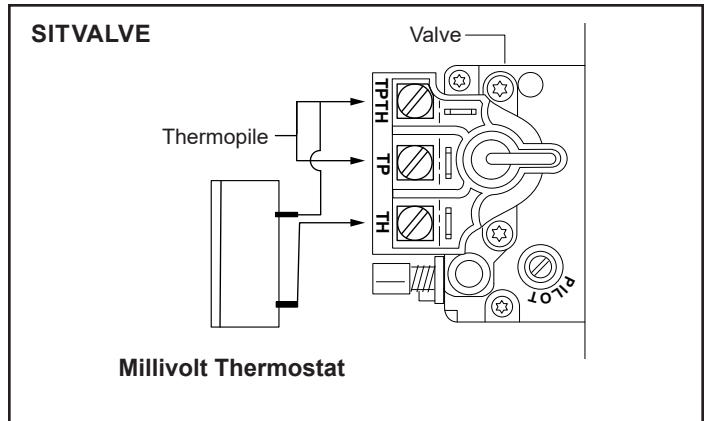

Figure 3.30 - Install wiring to Thermostat before connecting to valve.
2. Connect the thermostat or wall switch wires to the valve, Figure 3.30.